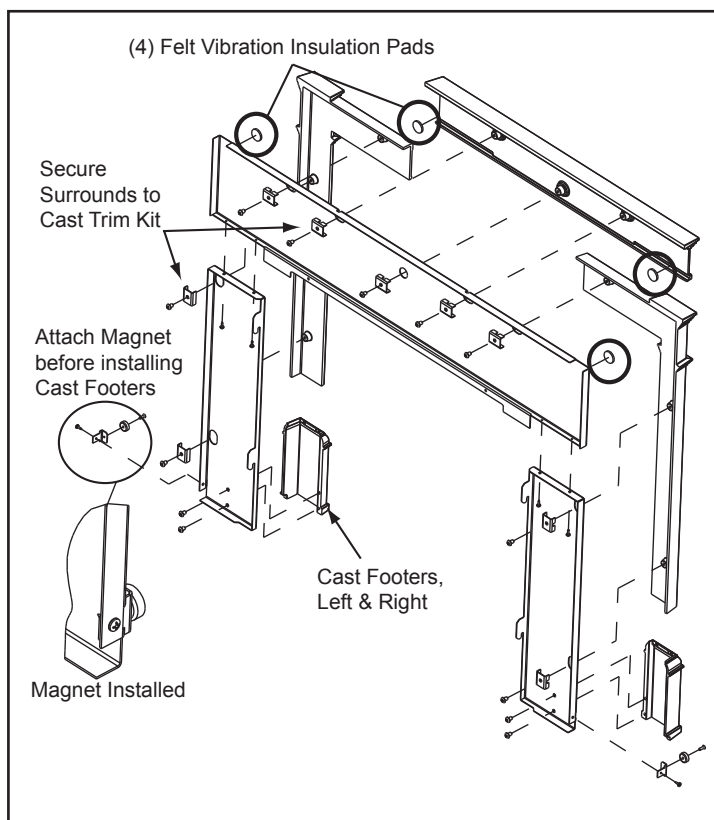

Figure 22.1
3. Using a 102 to 152 millimeters long Phillips head screw driver attach the side surrounds to the top surround using (2) #8 sheet metal screws on each side provided with the kit
4. Place the peel and stick round felt vibration insulation pads on the front side in each corner of the top metal piece and on the back side in each corner of the top cast piece. **Figure 22.1.**